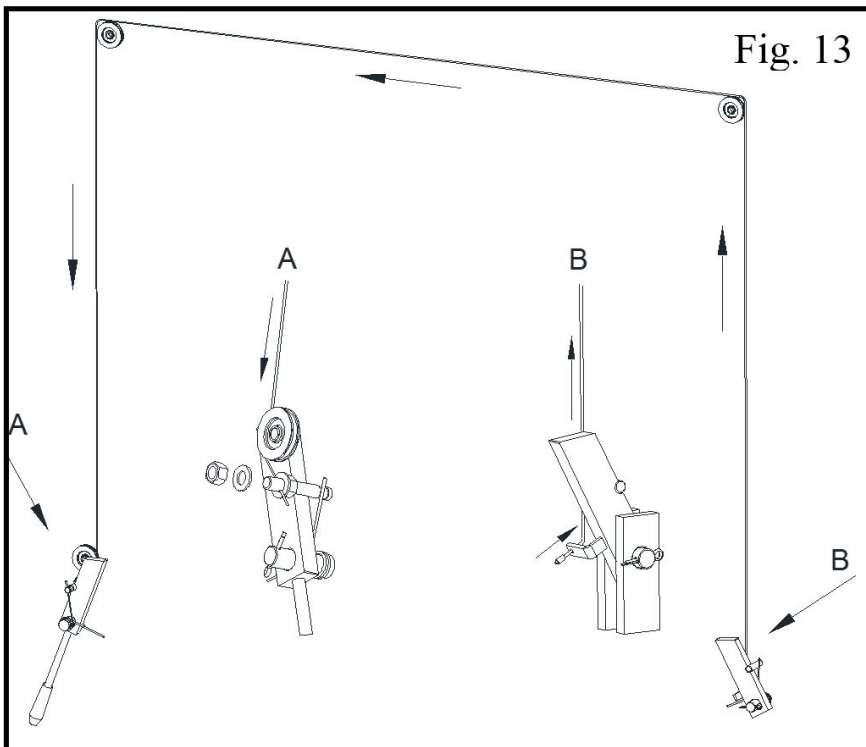

Fig. 13
- Continue routing the cable to the power-side column referring to the diagram (fig. 13). Make sure the cables routed on the guides mounted previously on the columns.